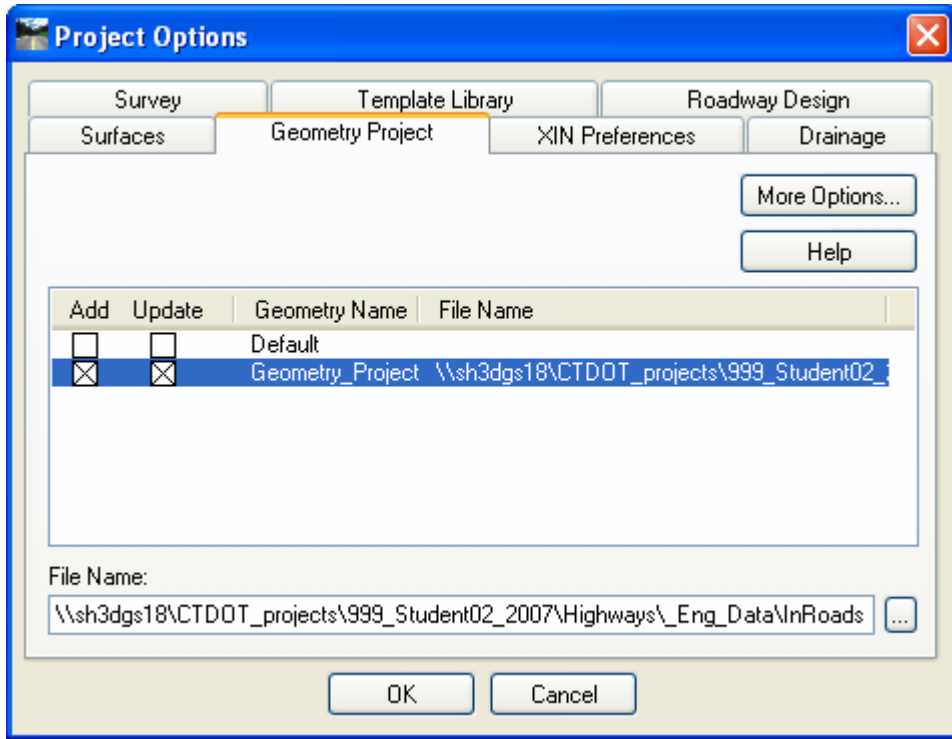

Figure 1-10 InRoads Project Options Dialog Box
- L. Save files in the RWK (Project). Click to **File > Save > Project** on the InRoads Main Menu. Click the **Options (...)** button on the lower right corner of the Save As dialog box. The Project Options dialog box (Figure 1-10) will appear. Check Add and Update and click on each file under file name for all the files listed under each tab. When the Surfaces tab appears, only click on Add for the Existing surface. (Proposed surfaces will be created later in the design process. These files will need to be checked off under Add and Update columns).